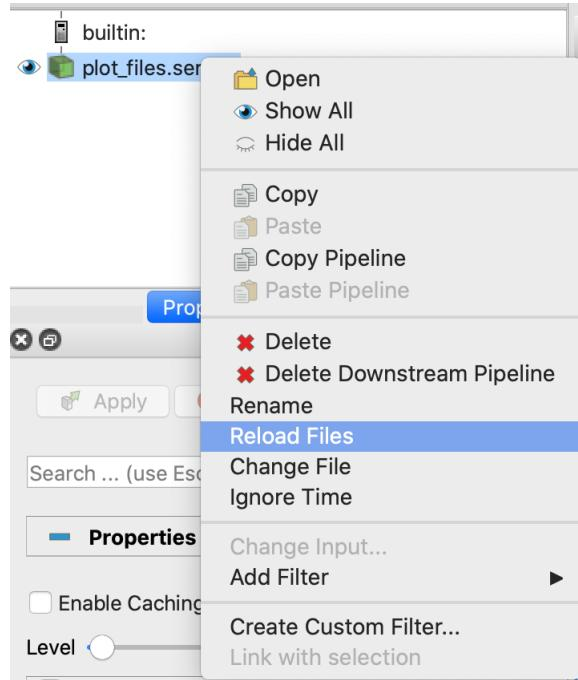
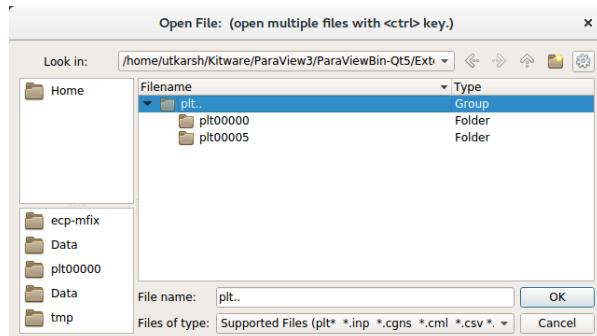

Fig. 18.2: : File dialog in ParaView showing how to reload a series file
Fig. 18.3: : File dialog in ParaView showing a group of plotfile directories selected
2. Navigate to your run directory, and select the fluid or particle plotfile. Note that you can either open single/multiple plotfile(s) at once by selecting them one by one or select an ensemble of file, labelled as `plt..` and indicated as a Group in the “Type” column of the file explorer (see Fig. 18.3). In the later case, Paraview
This will generate a file `plot_files.series`. Open ParaView, and then select “File” → “Open”. In the “Files of Type” dropdown menu (see Fig. 18.3) choose the option All Files (\*). Then choose `plot_files.series` and click “OK”. Now the plotfiles have been loaded as a Group as in Step 2 of section ParaView. Now, you can follow the steps 2 to 7 in the section ParaView to plot. As new plotfiles are generated, just re-run the bash script to re-generate the `plot_files.series` file, right-click on `plot_files.series` in the ParaView menu, and click on “Reload Files” (see Fig. 18.2).
1. Run ParaView v5.7, and select then “File” → “Open”. You will see a combined “plt..” group. Click on “+” to expand the group, if you want inspect the files in the group. You can select an individual plotfile directory or select a group of directories to read them a time series, as shown in Fig. 18.3, and click OK. ParaView will ask you about the file type – choose “AMReX/BoxLib Particles Reader”.